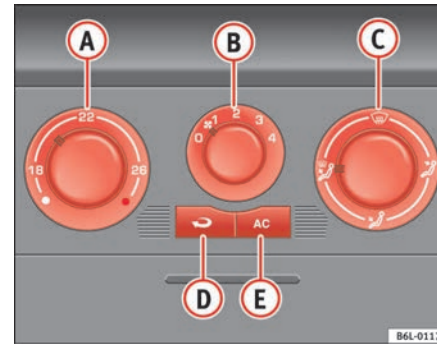

Fig. 95 On the instrument panel: air conditioning controls
- Disconnect the cooling system using button ⇒ fig. 95  (the button light goes off).
- Turn the temperature selector ① to set the desired temperature.
- Set the air distribution control ③ to the air flow configuration desired:  (towards the windscreen),  (towards the chest),  (towards the foot rest) and  (towards the windscreen and foot rest areas).
When air recirculation mode is switched on (button \Rightarrow page 123, fig. 95  with warning lamp) strong odours in the outside air do not enter the vehicle interior, for example when passing through a tunnel or in queuing traffic.